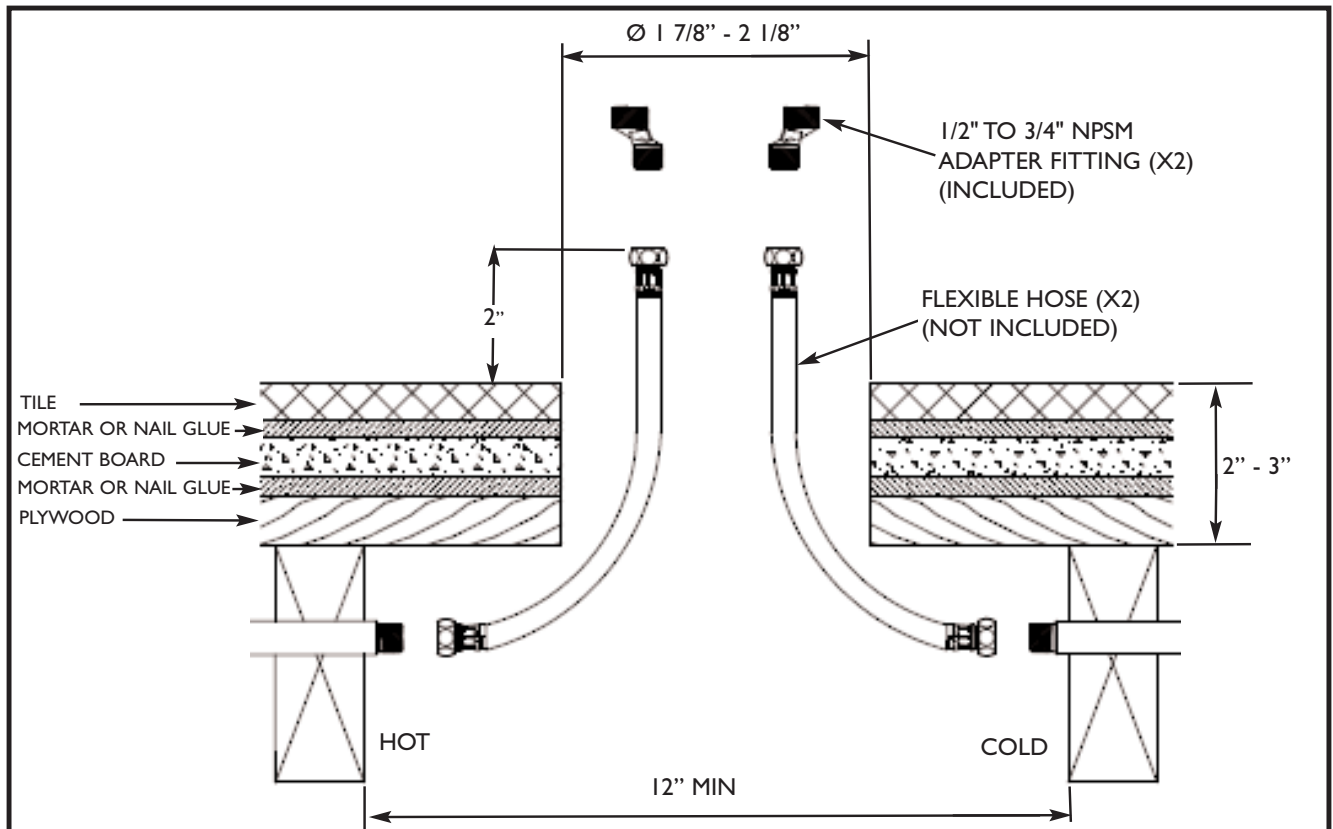

Figure 2
2. Flooring Substrate / Water Supply Requirements: Figure 2 illustrates the recommended water supply connection and flooring assumptions relative to site preparation.